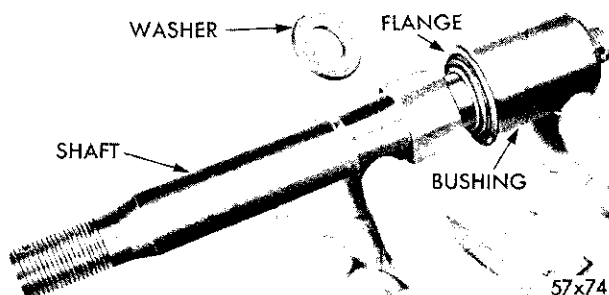

Fig. 14—Removing or Installing Shaft Bushing
(2) Remove the cotter pin, nut and washer from the end of the shaft, and remove the bushing from the shaft (Fig. 14).